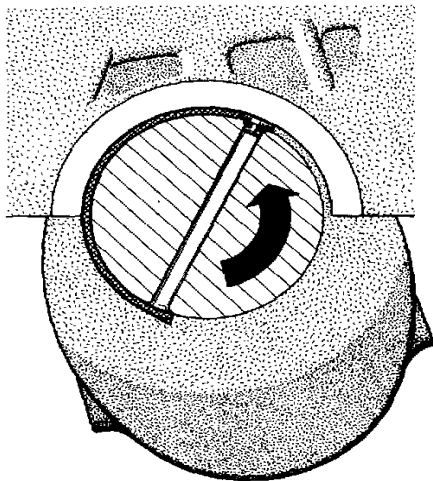

Fig. 92. Replacing main bearing shell
6. Turn the crankshaft until its oil hole is exposed. Place a stud in this hole. The stud must be of such a dimension that, when the crankshaft is rotated, it takes with it the upper shell (fig. 92).